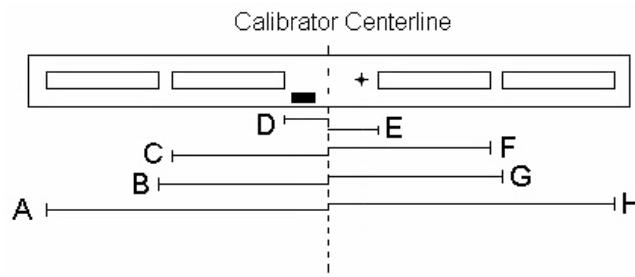
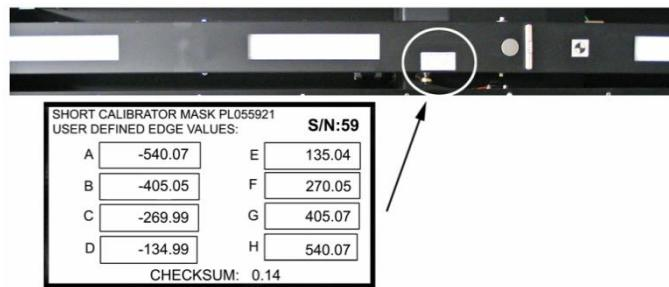

Figure 6.8a Edges' position
Figure 6.8b Calibrator's label
- The calibrator can be either **SHORT, LONG**, or **USER DEFINED** depending on which calibrator is being used. The long calibrator measures 1549.4 mm (distance between A & H in Figure 6.8a) while the short calibrator measures 1080 mm. By selecting **SHORT** or **LONG**, the calibrator mask dimensions will automatically appear in boxes **A** to **H**. These dimensions (in millimeters) are outlined in Figure 6.8a. Before the selection in this field is made, it is imperative that the user verifies whether there is a label attached to the top of the calibrator as seen in Figure 6.8b. If so, then select **NOT SELECTED** from the calibrator type. If the values **A** to **H** do not match those found on the label, select **USER DEFINED** instead and enter the values manually. Any values entered through **USER DEFINED** will be stored in memory. The next time calibration is performed and **NOT SELECTED** is chosen for calibrator type, the previously entered values through **USER DEFINED** will be displayed and will not require reentry. It is still important that these values are verified to those on the calibrator label before proceeding.